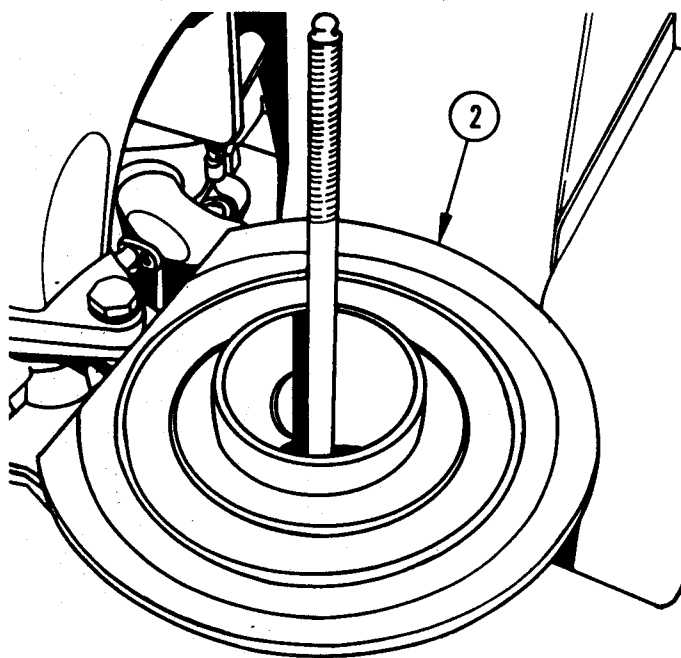

FIGURE 67
7. Install Air Cleaner Base (2) on top of Gasket on carburetor throat as shown in Figure 67. Be sure to position the Air Cleaner Base with outside edge facing "up" and flat side toward manifold.